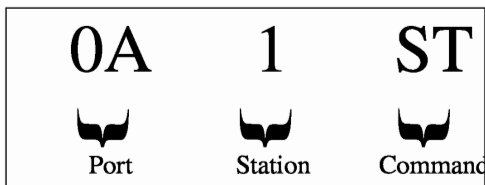

Figure 3-39 Example 1 of Remote Variable Address
**Note 1:** Example in figure 3-39 shows a 'Status Read' command issued to an EX250/500 device.